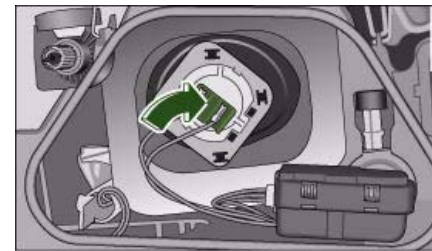

Fig. 267 Inserting bulb for dipped headlights
- Press the connector in the direction of the arrow ⇒ *page 281*, fig. 267 until the bulb engages.